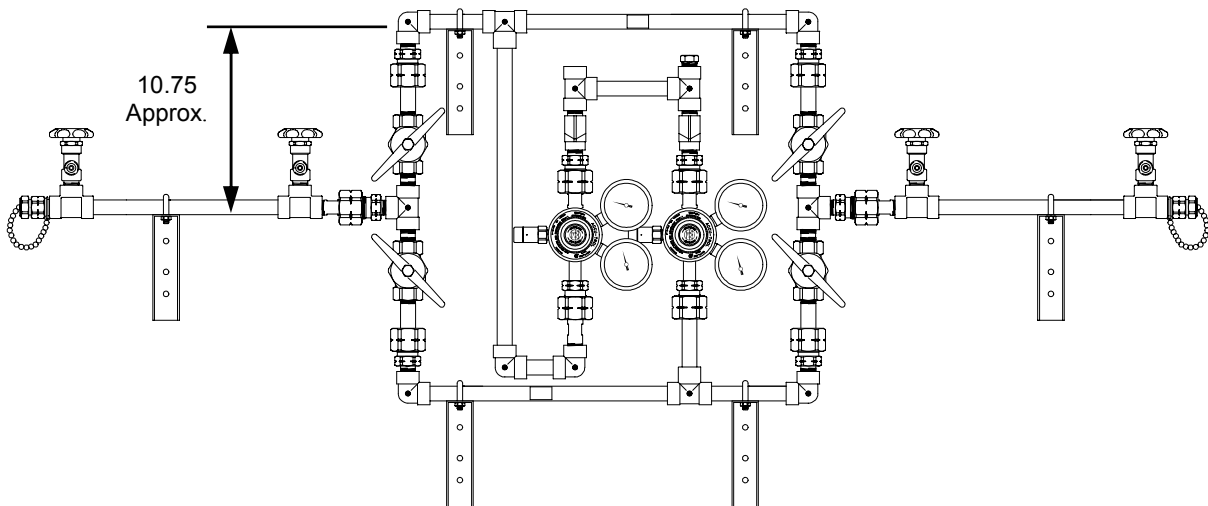

Figure 4
5. Mount the AD control section on the two brackets. (Figure 4)
6. Place brackets against the bottom of the AD control piping section. Mark mounting holes and install fasteners suitable for the type of wall construction. (Figure 4)
8. Measure approximately 10.75 inches from the top control section for mounting headers. (Figure 4)
10. Mount the header on the bracket. Fit U-bolt over the header pipe and tighten the mounting nuts. (Figure 4)
11. Using a level mark the placement of any additional mounting brackets while keeping the header on a horizontal plane (Figure 4)